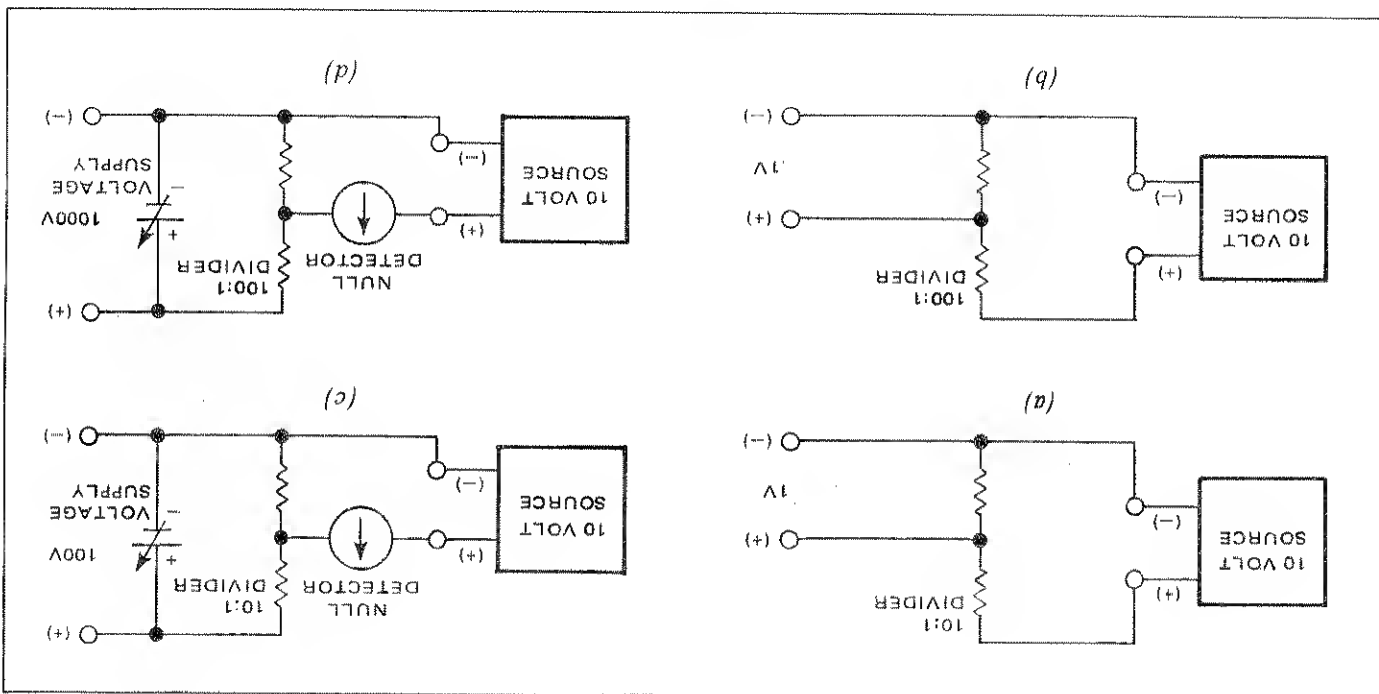

Figure 5.1 - 10 Volt Source
5.11 To produce voltage levels of necessary accuracy, special techniques are required. Suitable methods of generating these voltages are shown in figures 5.1 and 5.2.
A source filling these requirements is shown in figure 5.1. This circuit consists of a null detector, 7-decade voltage divider, a dc voltage supply, and a bank of saturated standard cells. Two advantages of this particular hookup are that; (a) there is minimal loading of the standard cells and (b) stability, not accuracy, is the primary requirement of the dc voltage supply.